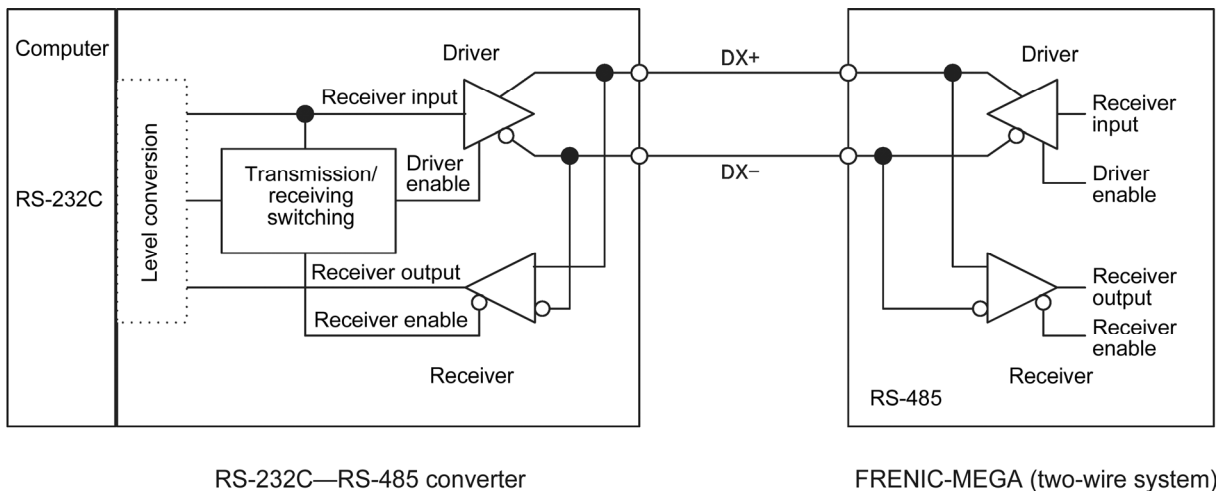

Figure 9.1-3 Communications Level Conversion
* The fail-safe facility refers to a feature that ensures the RS-485 receiver's output at "High" (logical value = 0) even if the RS-485 receiver's input is opened or short-circuited or all the RS-485 drivers are inactive. Refer to Figure 9.1-3 "Communications Level Conversion."